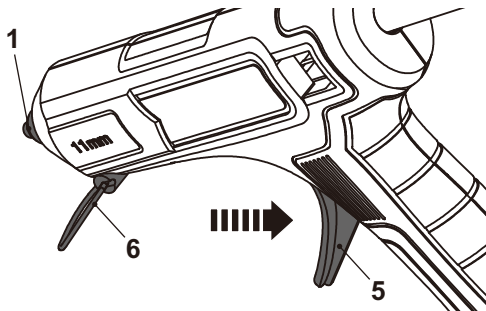

Fig. 4
1. Pull the trigger (5) to start the glue flowing (Fig. 4).
2. Release the trigger (5) to stop the flow of the glue.